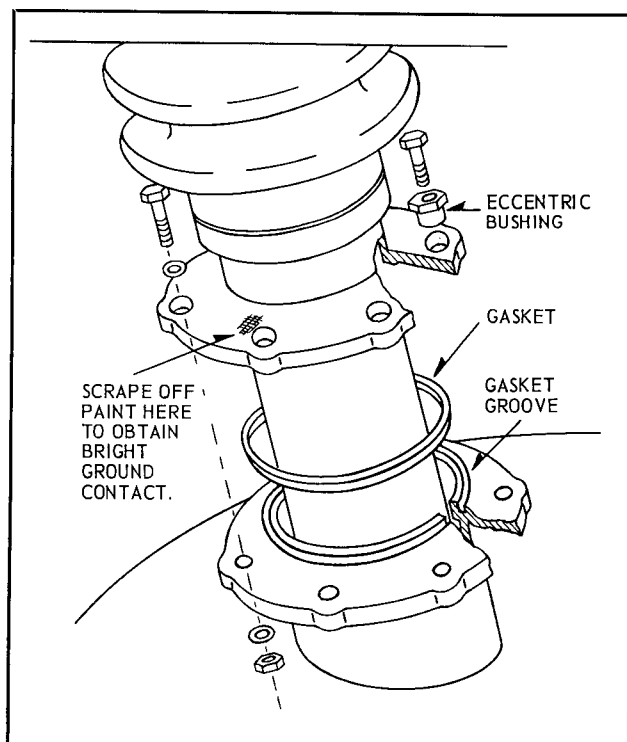
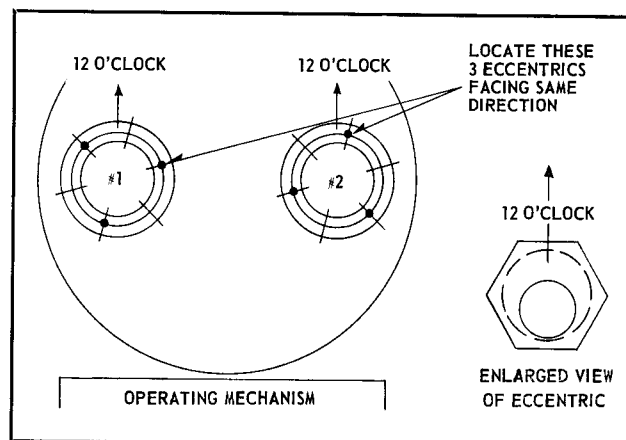
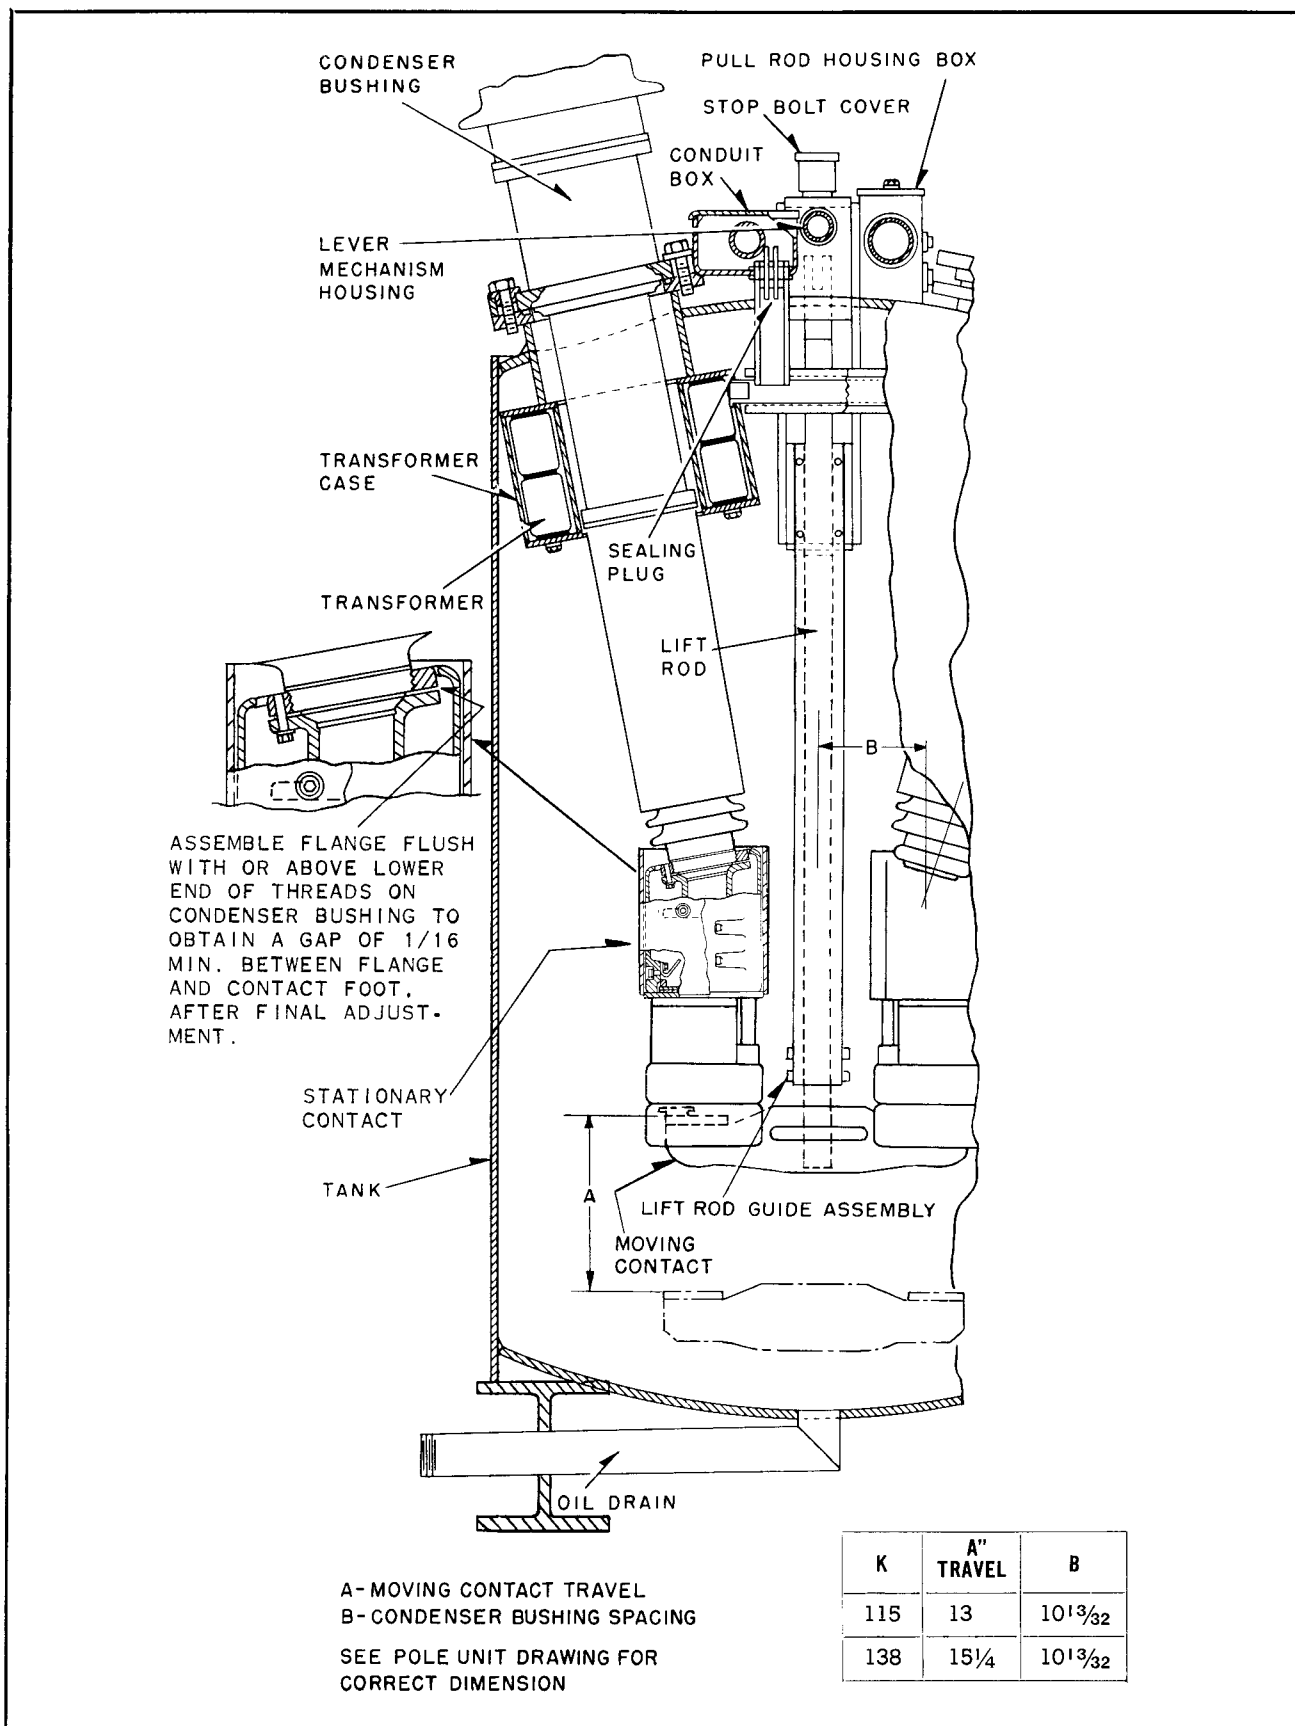
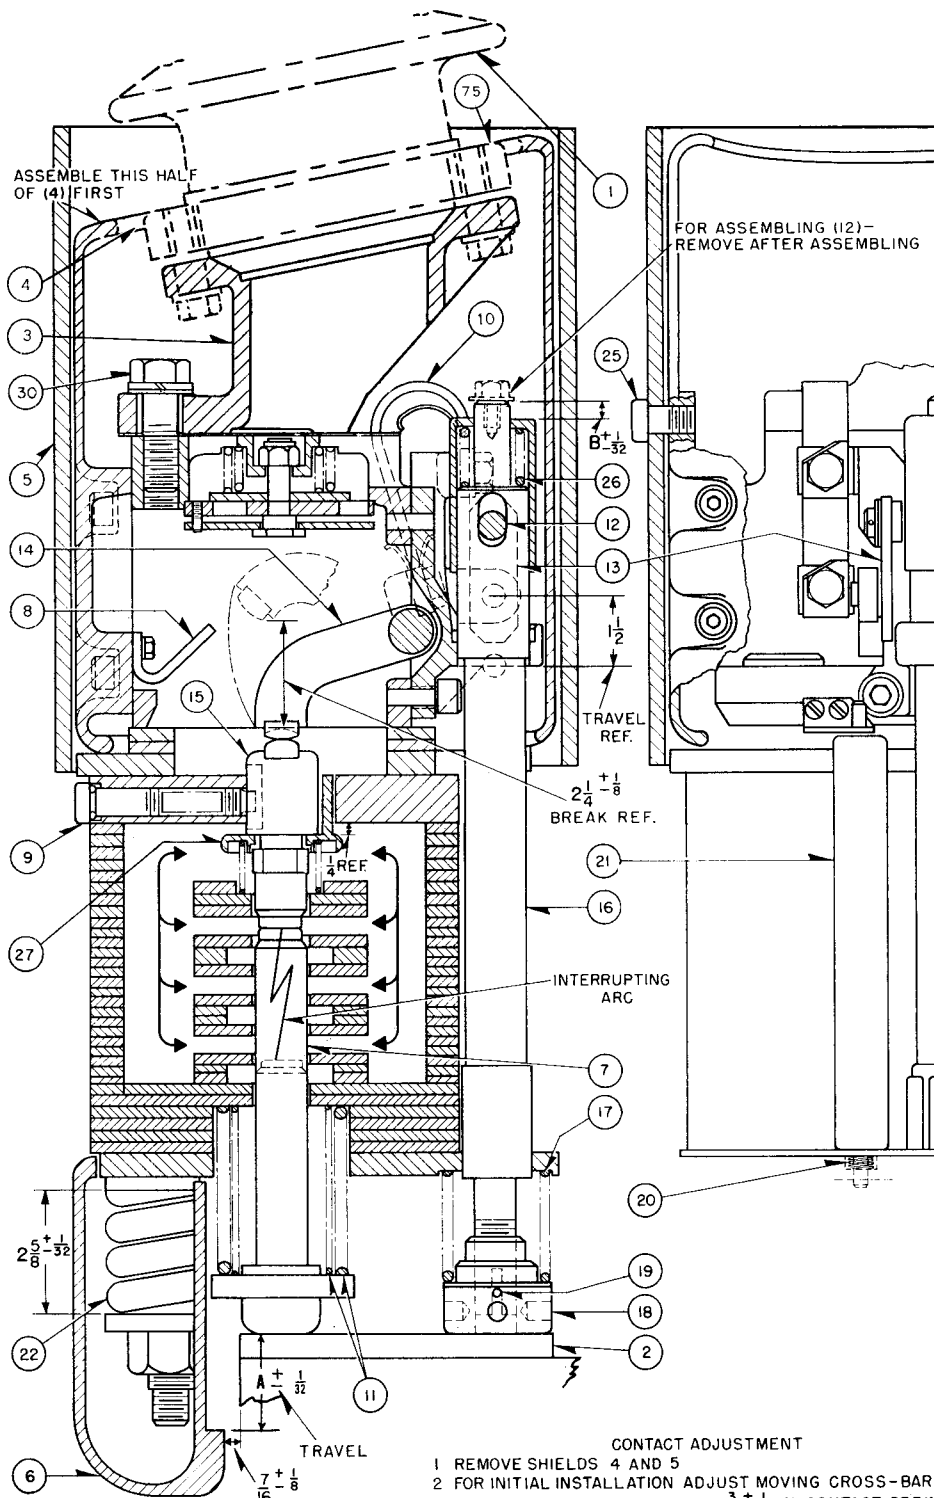

FIG. 8. Installing a Condenser Bushing
FIG. 9. Eccentric Locations for 115 and 138 Kv. Breakers
FIG. 11. Section View of Pole Unit Assembly and Moving Contact Travel Dimensions
FIG. 12. Contact Adjustment
2. Cement gasket to tank flange and apply vaseline between gasket and condenser bushing. The vaseline will permit shifting the bushing without damaging the gasket. Lower the bushing into place as per Fig. 8 with eccentrics located as per Fig. 9. Before tightening the holding bolts, the bushings should be accurately aligned with respect to the centerline of the tank and lower ends spaced the proper distance apart. (See Pole Unit End View drawing Fig. 12.) Two open end wrenches per order or station are furnished for adjusting bushing eccentrics. To assist in assembling breakers which are shipped dismantled refer to copy of drawing 127-A-538 (for 115 KV and 138 KV breakers) filed in the pocket on inside of the mechanism housing door. On this drawing are noted the eccentric positions determined during factory assembly for test.
3. Make sure a bright ground contact is made between the bushing flange and the breaker tank before finally tightening down the flange bolts. This can be accomplished by scraping off the protective paint beneath one bolt head on each bushing flange. (See Fig. 8.) It is advisable to check this
To do this conveniently, remove Micarta shield (5) and upper metal shield (4) in the order stated. See Fig. 12. Then remove the contact foot (3) with flange (75). The flange and foot assembly is held to interrupter assembly by three bolts (30). Screw the flange and foot assembly on the condenser-bushing stud. Care must be taken to prevent cross-threading or damage to either threaded member. As indicated in the note on pole unit assembly Fig. 11 the flange (75) Fig. 12 is to be screwed on the bushing stud so the lower surface of flange is flush with or higher than lower end of threads on condenser bushing stud to obtain a gap of $\frac{1}{16}$ " min. between flange (75) and contact foot (3) after final adjustment. The gap is necessary for locking the threads on flange and stud on pulling up the 8 bolts through the foot so the contact assembly cannot turn on the stud. Do not draw up bolts to final tightness as it may be desirable to shift the foot slightly in aligning the contact. The contact feet on the two bushings must be located at as nearly same height as possible. Assemble the stationary contacts on the feet. Do not tighten the bolts (30) or assemble the contact shields until the moving contacts have been assembled and final adjustment made.
to engage them simultaneously. Refer to Fig. 12 and note the horizontal alignment dimension of $\frac{7}{16}'' \pm \frac{1}{8}''$ for the end of the moving contact crossbar (2) where it enters the lower metal shield (6). Several methods are available for securing alignment and simultaneous touching of contacts:
1. Slight shifting of stationary contact assembly on contact foot (3). Oversize holes in contact foot permit this adjustment.
Refer to Fig. 12 for contact adjustments. Adjustment note on Fig. 12 gives a condensed procedure which is more fully explained as follows:
kv breaker, and $15\frac{1}{4} \pm \frac{3}{8}$ " for 138 kv breaker. (See Fig. 11).